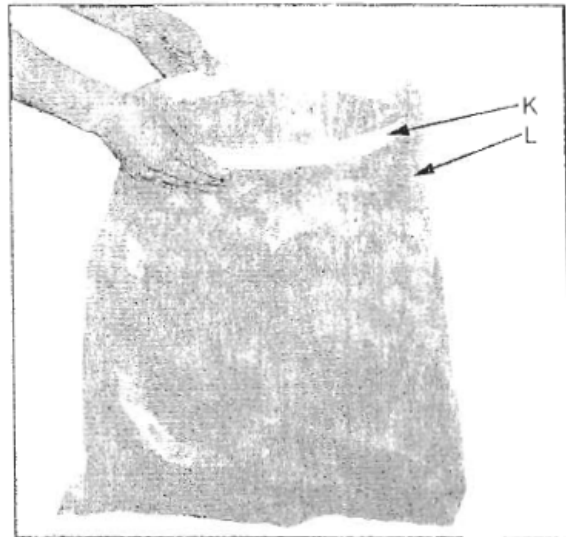

Fig. 6
11. Place snap ring (K, Fig 6) over the top of plastic bag (L, Fig. 6) and fold over the bag approximately three inches.